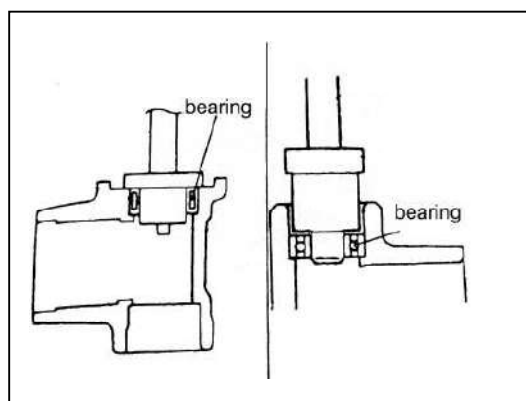

Fig 17-34
2) NEEDLE BEARING/LOWER BEARING INSTALLATION (See fig 17-34)